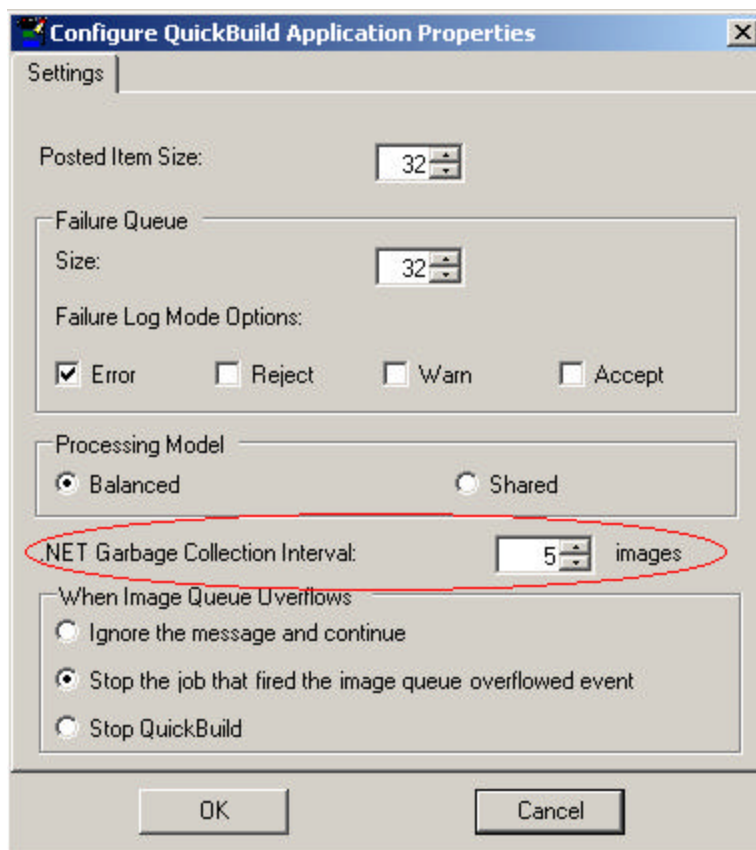

Figure 8. Adjusting the .NET Garbage Collection interval
- ?? **Garbage Collection:** The .NET garbage collection interval can be control from the “Configure QuickBuild Application Properties” form as shown in Figure 8. Reducing the .NET garbage collection interval may help reduce memory usage after each Job is run, but may not necessarily reduce the overall memory usage for the application.